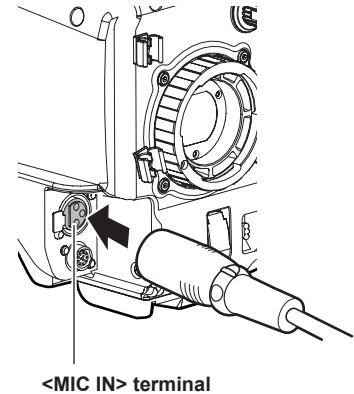

Fig. 3
- 3 Connect the microphone connecting cable to the <MIC IN> terminal on the camera. (Fig. 3)